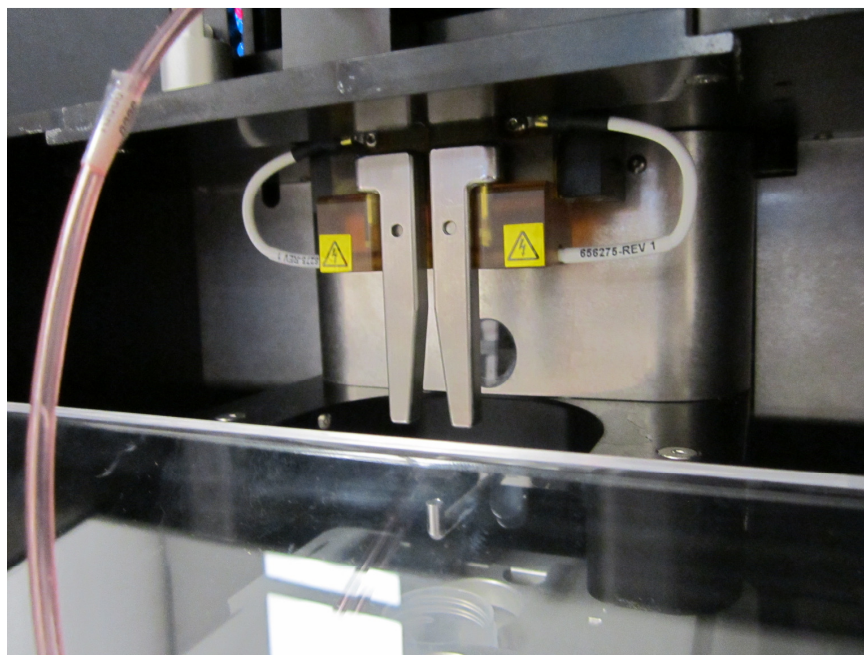

Figure 12. The deflection plates in the closed position.
- 5.8.2 To prepare for sorting, clean the deflection plates and reinsert them in place with the magnets flush to the magnets on the cytometer. Close the plates as shown in Figure 12.